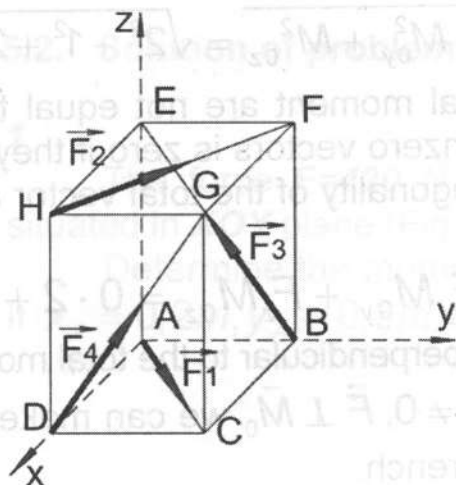

Fig. 5.4
Forces  $F_1 = F_2 = F_3 = F_4 = F$  (N) are applied at the following points of a cube: **A** (along the diagonal **AC**), **H** (along the edge **HF**), **B** (along the diagonal **BE**), **D** (along the diagonal **DG**) respectively (Fig. 5.4).